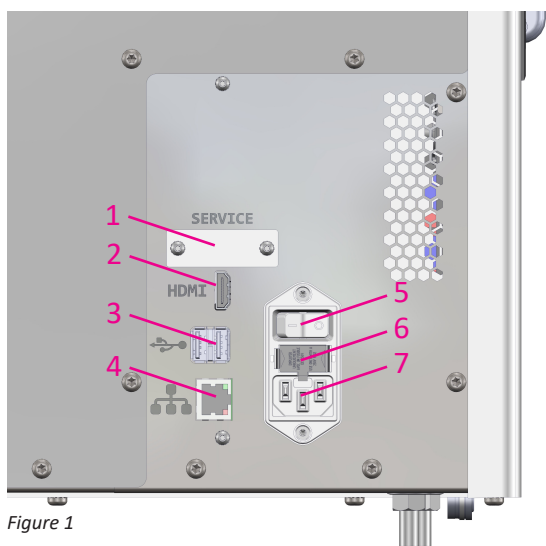
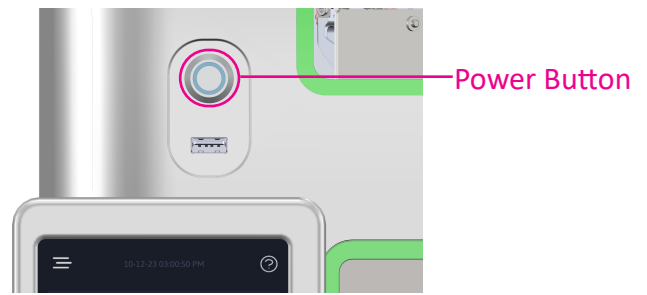

Figure 1
Figure 4
- To power on the unit, set the AC power switch at the rear of the device to the ON (“I”) position (Figure 1). Press the glowing Power Button (Figure 4) located above the Touch Screen on the front of the device. The instrument will produce an audible beep, after which the instrument is non-functional while the operating system boots up. This bootup can last up to 1 minute. The device will not accept samples until the temperature of the measurement components has warmed up and stabilized; the Touch Screen will indicate when the analyzer is ready for use.